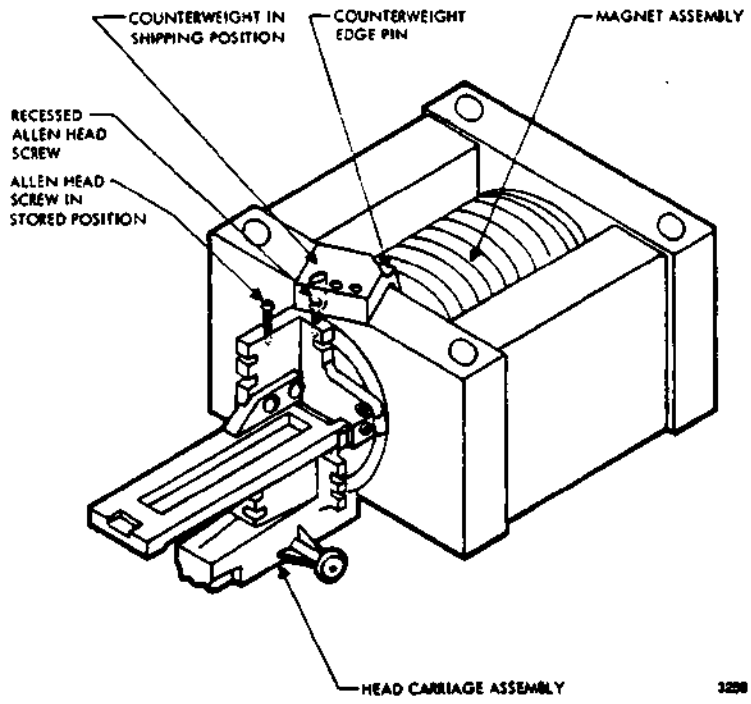
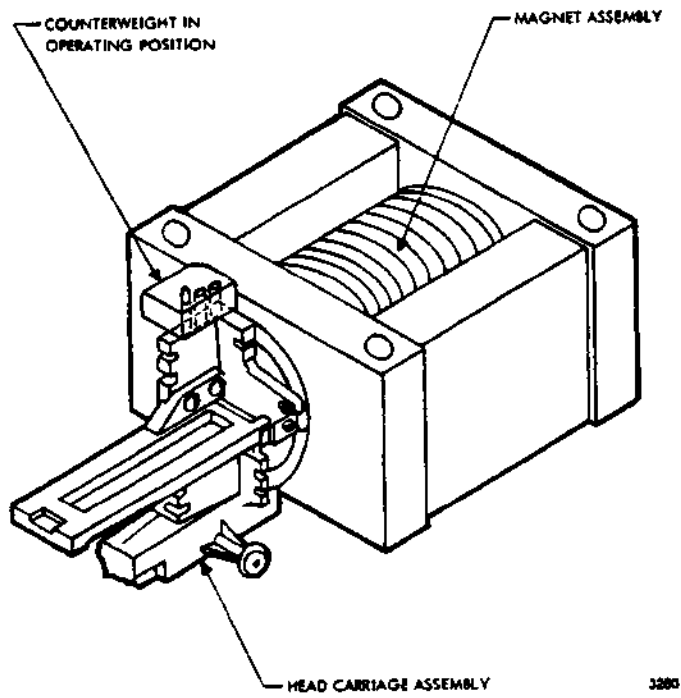

Figure 2-5. Counterweight in Shipping Position
Figure 2-6. Counterweight in Operating Position
- (9) Locate and identify the carriage retainer counterweight at the rear of the head carriage assembly. Figure 2-5 shows the counterweight in its shipping position.
- (10) Locate and remove the Allen head screw stored in the top of the head carriage assembly adjacent to the counterweight.
- (11) Remove the recessed Allen head screw from the counterweight which secures the head carriage assembly to the magnet assembly during shipment. The head carriage assembly can now be moved backward and forward freely.
- (12) Align the two round holes in the counterweight to the two mating holes on top of the head carriage assembly and insert the Allen head screws removed in Steps (10) and (11). Figure 2-6 shows the counterweight in its operating position. Tighten each Allen head screw so that the counterweight remains secure during operation of the positioner.
IF THE UNIT IS SHIPPED, THE COUNTERWEIGHT MUST BE USED TO SECURE THE CARRIAGE ASSEMBLY. PERFORM THE FOLLOWING STEPS TO ENSURE THAT THE COUNTERWEIGHT IS SECURED IN ITS SHIPPING POSITION. FIGURE 2-5 SHOWS THE COUNTERWEIGHT IN ITS SHIPPING POSITION.
- (1) Ensure that the head carriage assembly is fully retracted.
- (2) Remove the two Allen head screws holding the counterweight to the head carriage assembly. This will free the counterweight.
- (3) Place the counterweight on the magnet assembly as shown in Figure 2-5 so that the counterweight edge pin is positioned behind the front plate of the magnet assembly.
- (4) With the counterweight edge pin placed as in Step (3), position the elliptical hole of the counterweight so that it is in line with the Allen head screw hole closest to the magnet assembly on the carriage assembly.
- (5) Tighten the recessed Allen head screw in the counterweight so that it does not loosen during shipment. This secures the head carriage assembly to the magnet assembly.
- (6) Place the remaining Allen head screw removed in Step (2) into the storage hole provided on the head carriage assembly. Tighten the Allen head screw so that it will not loosen during shipment.